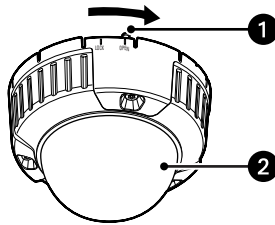

Figure 27. Securing the Camera to the Camera Attachment (Flush Mount)
- b. Engage the camera's attachment mounting screws with the mounting holes on the camera attachment, and then rotate the camera in the direction of the arrow to the LOCK position to secure the camera to the camera attachment without any backlash (refer to Figure 27).